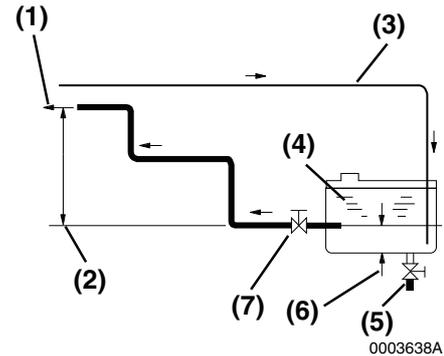

Figure 3-7
Shown is a typical installation of a boat fuel system. Fuel supply (**Figure 3-7, (2)**) and return (**Figure 3-7, (4)**) lines connect to fittings at the engine.
Install a drain cock (**Figure 3-7, (6)**) at the bottom of the fuel tank to remove water and contaminants.